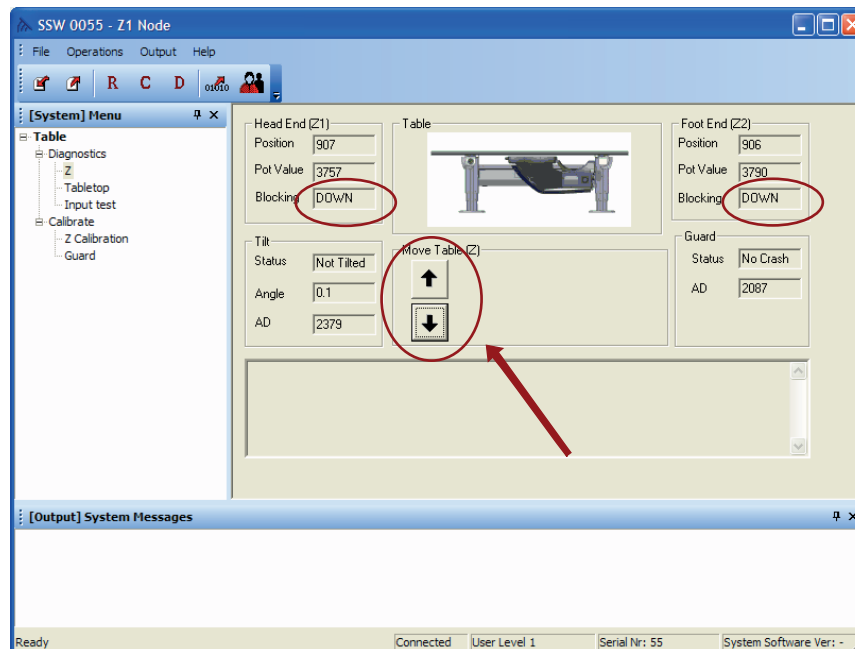

Fig. 5-160
12. Press the *Arrow Down* button and keep it pressed until the text "NO" is visible in the *Blocking edit box* for both the *Head End* and the *Foot End*, see Fig. 5-160 .